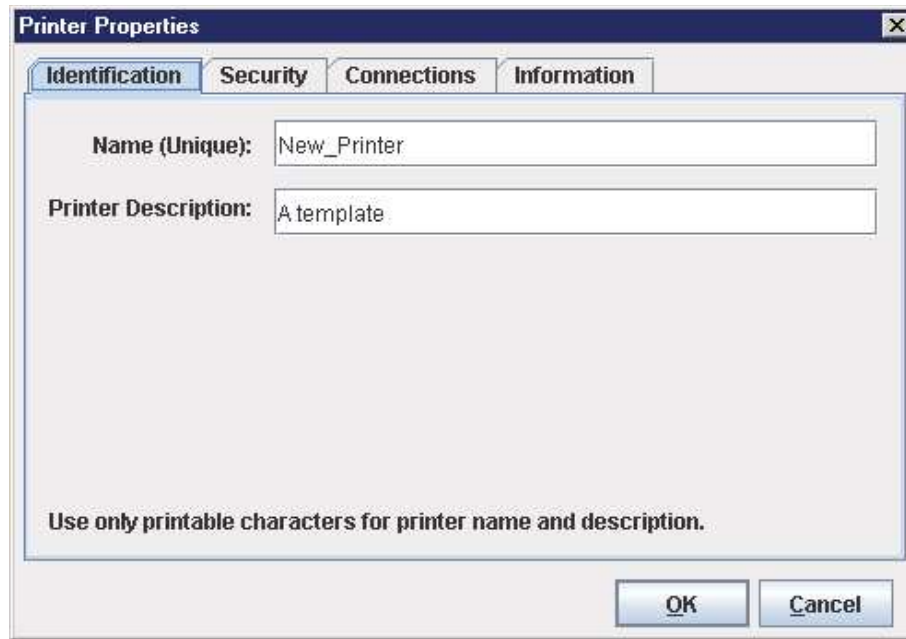

Figure 3 Printer Properties: Identification Tab
4. Double-click **New_Printer (A template)**. The Printer Properties dialog box opens. See Figure 3.